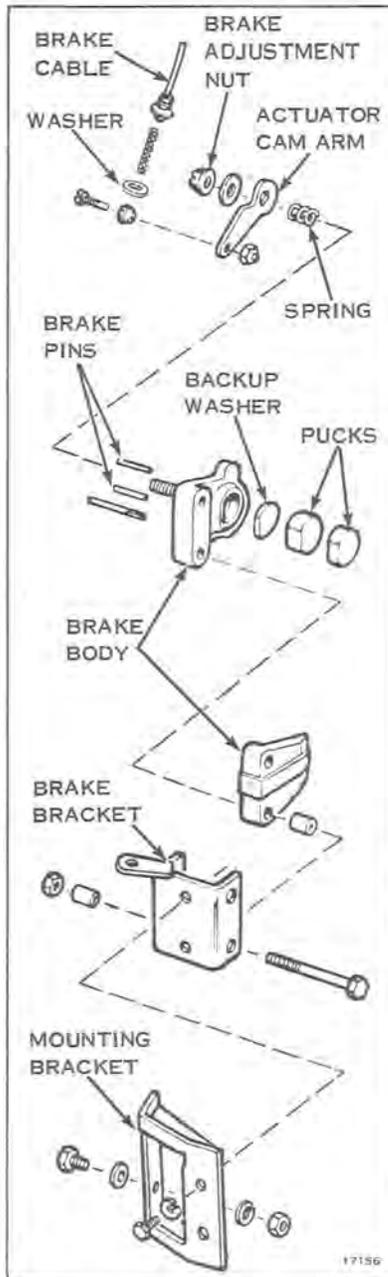

Figure 10-12
- a. Loosen brake adjustment nut. See Figure 10-12.
- a. Disassemble brake assembly as required, noting relative positions of components to assure correct reassembly (see Figure 10-12).
- a. Reassemble the brake assembly and assemble to bracket. See Figure 10-12.